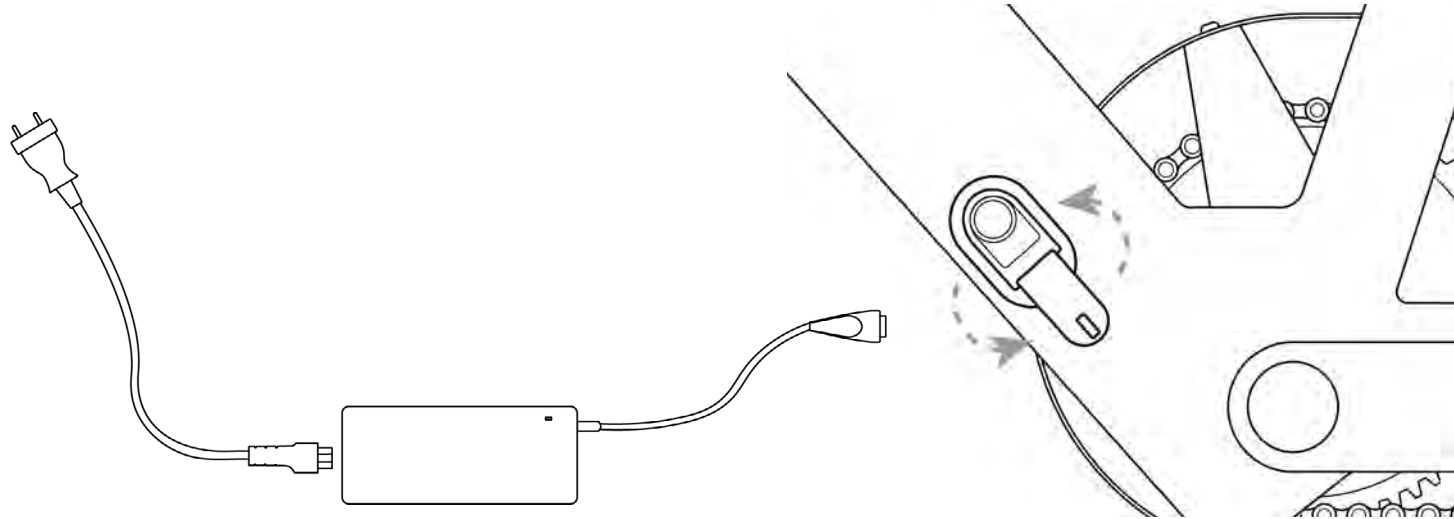

FIG. 9
- 2- Lift the rubber stopper on the battery socket, located on the left side of the frame (Figure 9);